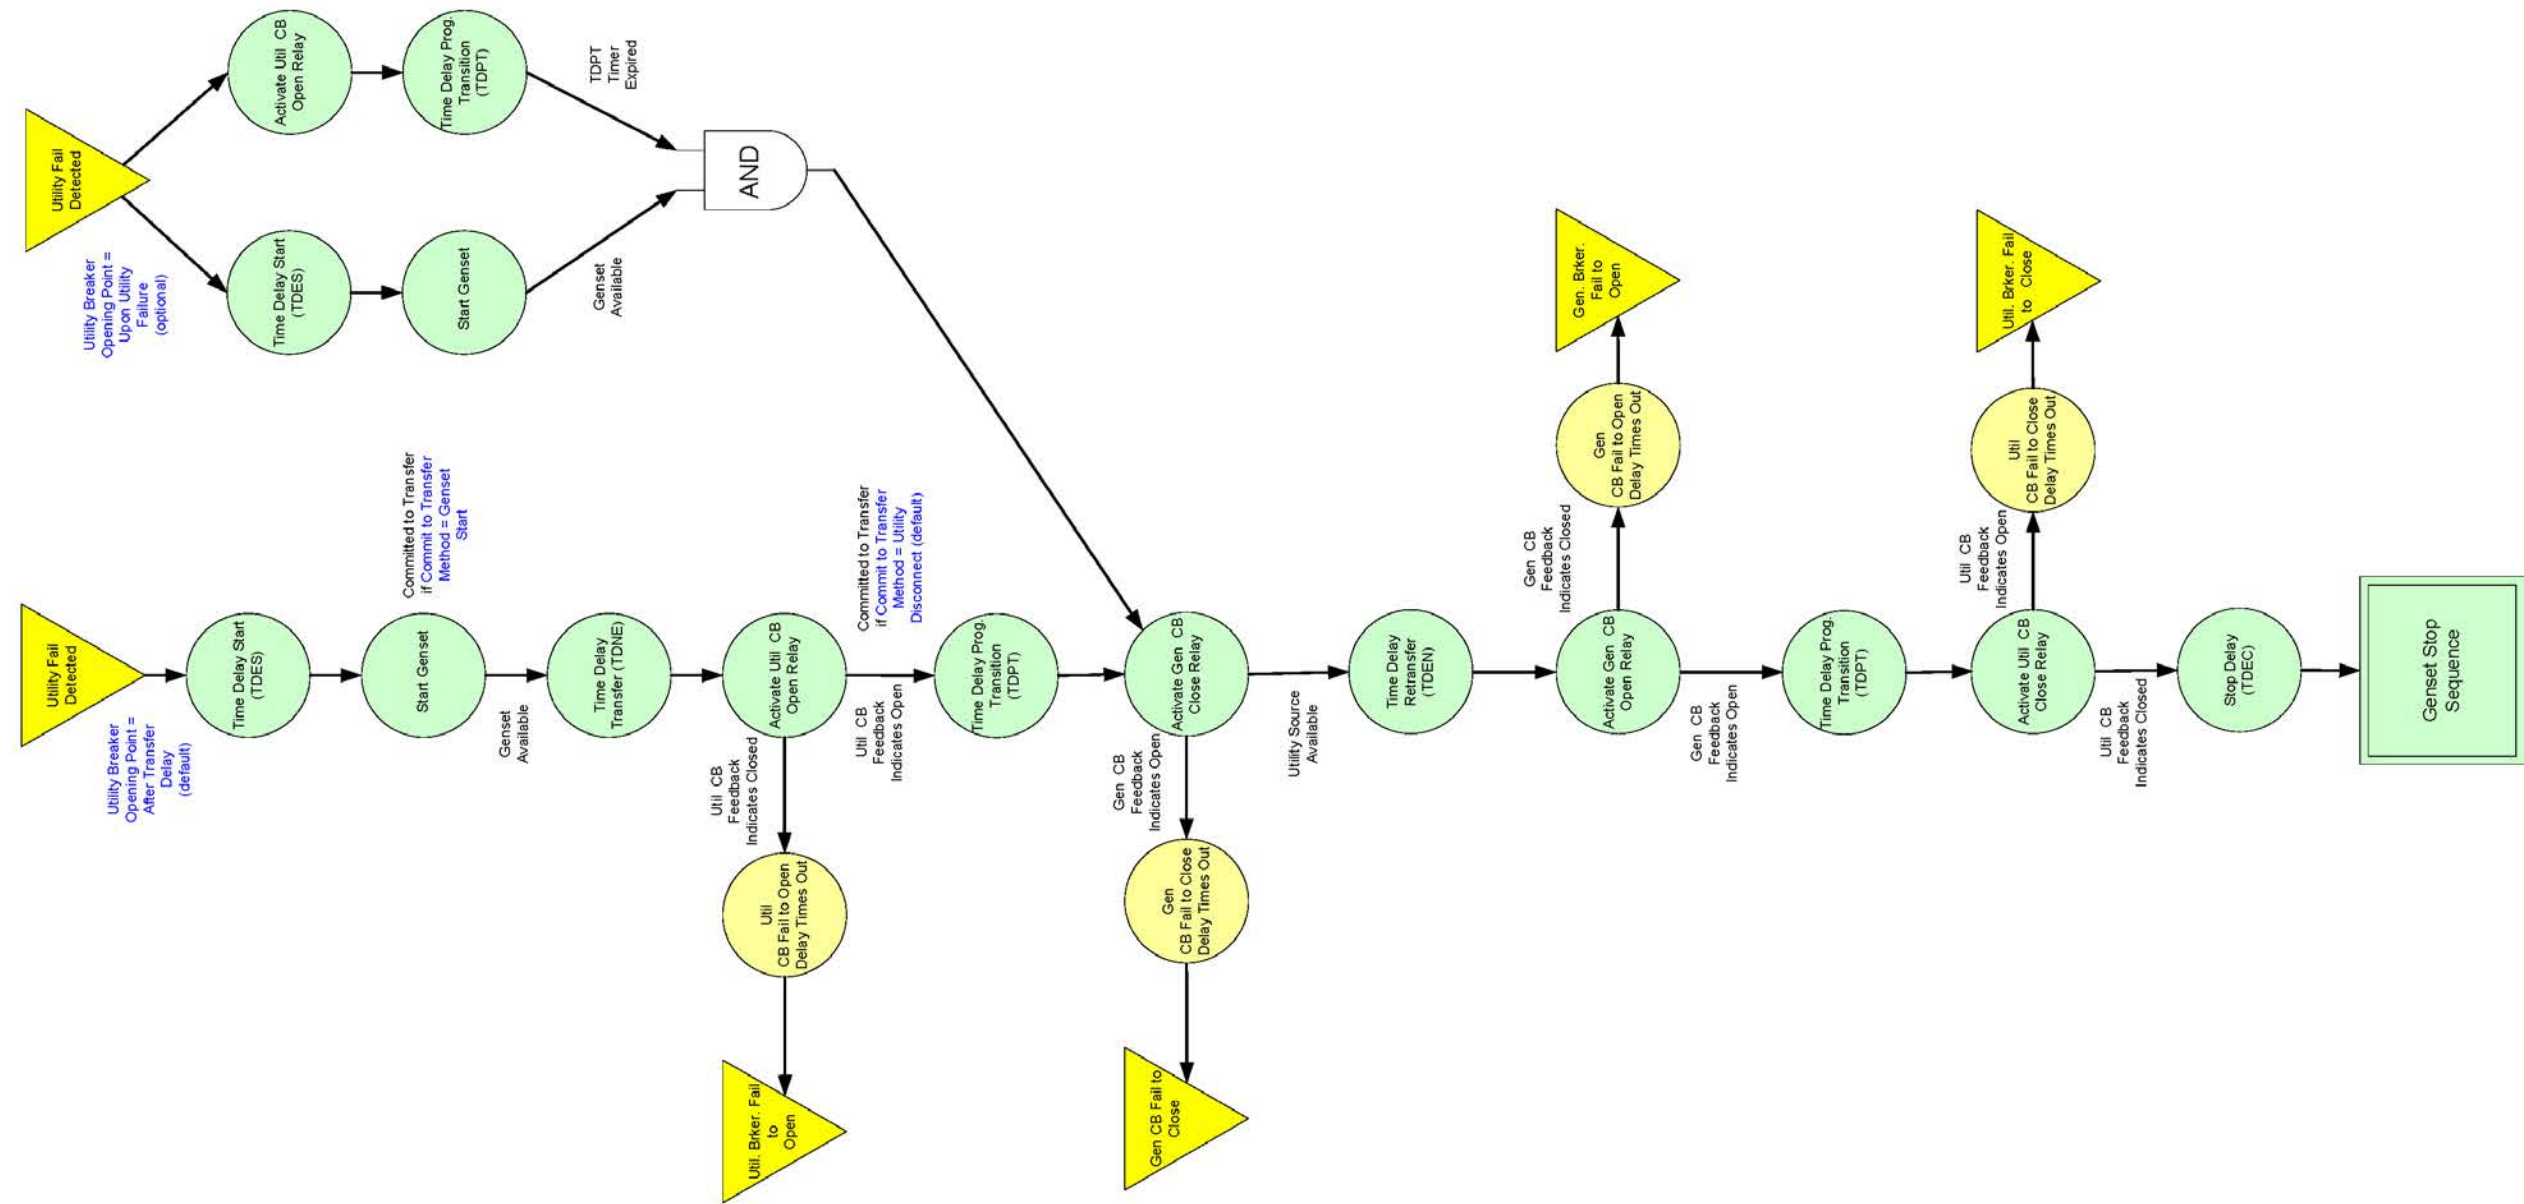

FIGURE 147. POWER TRANSFER CONTROL: UTILITY FAILURE/RETURN, OPEN TRANSITION
- Figure 147. Power Transfer Control: Utility Failure/Return, Open Transition 679